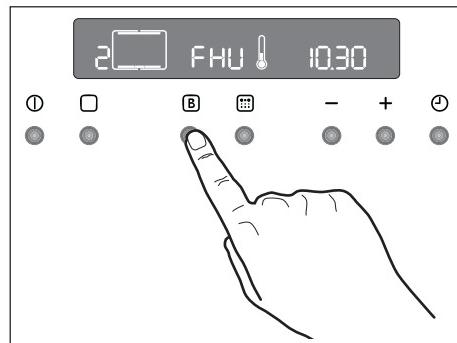

Fig. 14
- 4) Press button **(B)**. The temperature display will show “FHU” (Fig. 14).